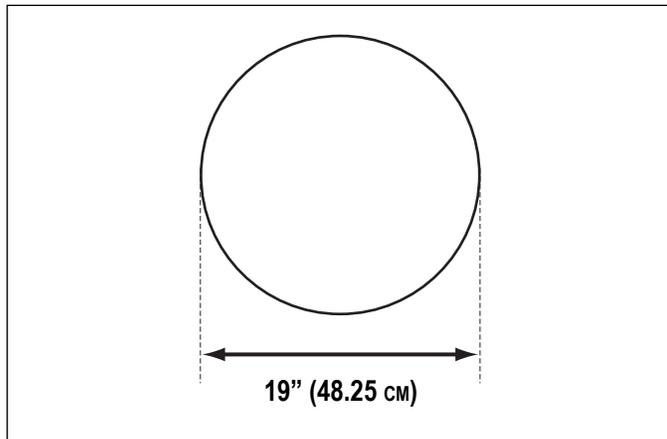

Figure 6. Cutout Dimensions.
1. Cut out counter opening using chafers and Figure 6.
9. Open the cover (B). Remove the food pan (D). When removing hot food containers from unit use gloves, mitts or pot holders to protect hands. See Figures 6.
10. Allow ample time for the water to cool. Remove the water pan (E) and dispose of water.